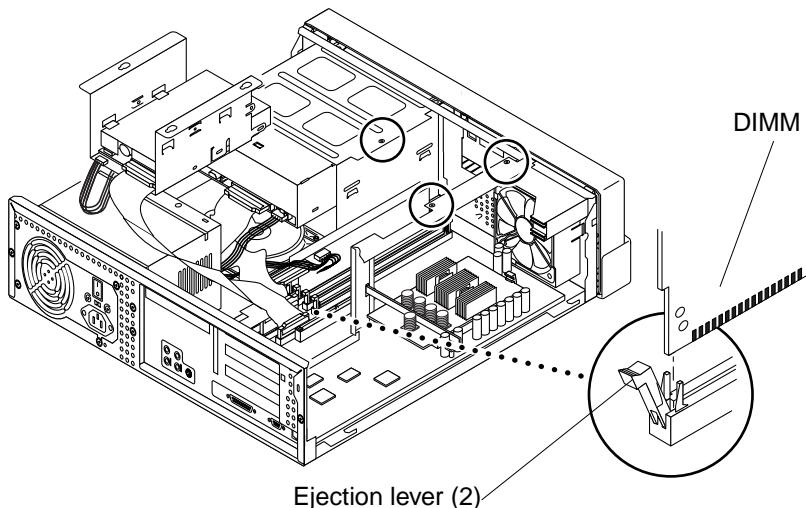

FIGURE 8-3 Removing and Replacing a DIMM
4. Push the ejection levers away from the DIMM (FIGURE 8-3).
2. Install the DIMM as follows: (FIGURE 8-3)